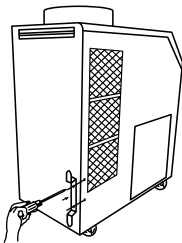

Figure 28
3. Use screws (enclosed inside of accessory box with cord holder) to install the cord holder on the air conditioner as shown in Figure 28.